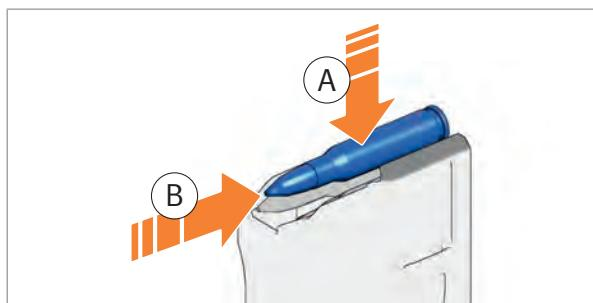

Fig. 86: Fill the magazine
2. Push cartridge under the magazine lips (Fig. 86).
3. Push cartridge to the rear as far as it will go (Fig. 86).